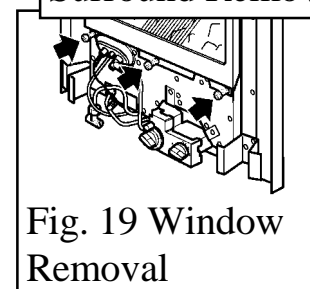

Fig. 19 Window Removal
- Unscrew and remove the three spring-loaded window-fixing screws and washers from the base of the window frame. See figure 19.